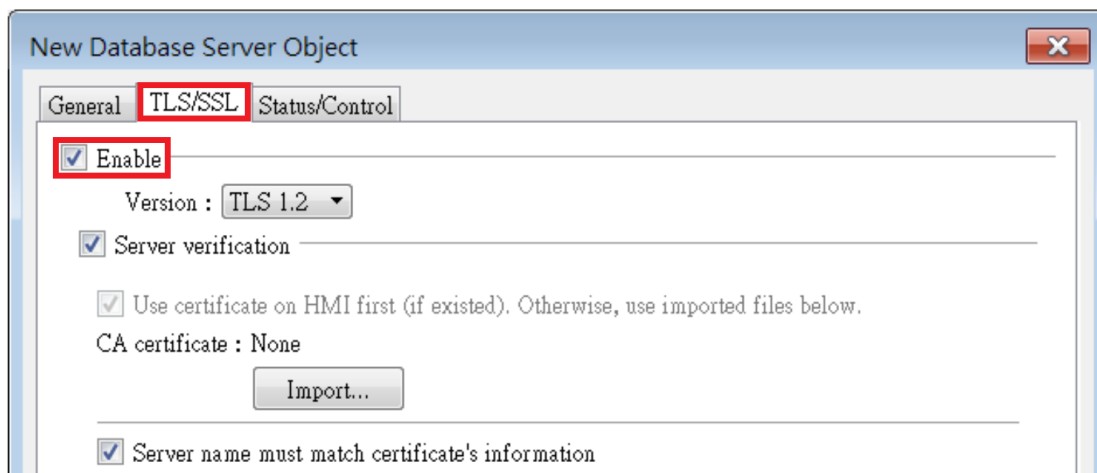

Figure 5.5: TLS/SSL encryption configuration for database server.
When a database server is used in a project with an HMI, it is recommended to enable TLS 1.2 encryption. The Certificate Authority (CA) certificate should also be imported. In the Database Server object settings, enable encryption and verification on the *TLS/SSL* tab, as shown in Figure 5.5.